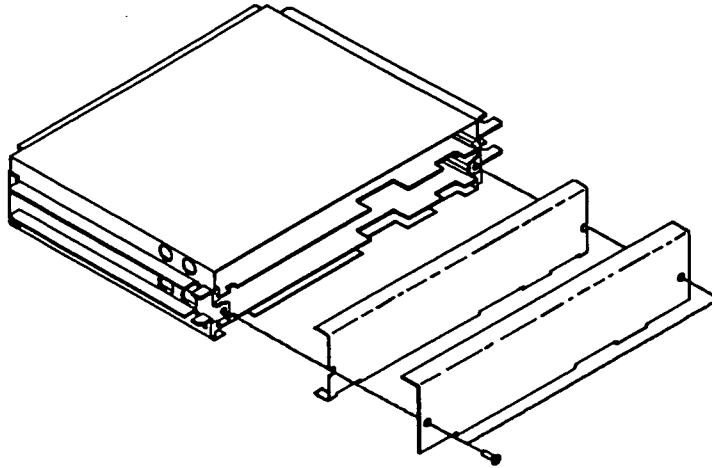

Figure 2-66. A6 Baseband Boards Shield Covers
16. See figures 2-66 through 2-72 for connector locations, adjustment locations and waveforms.